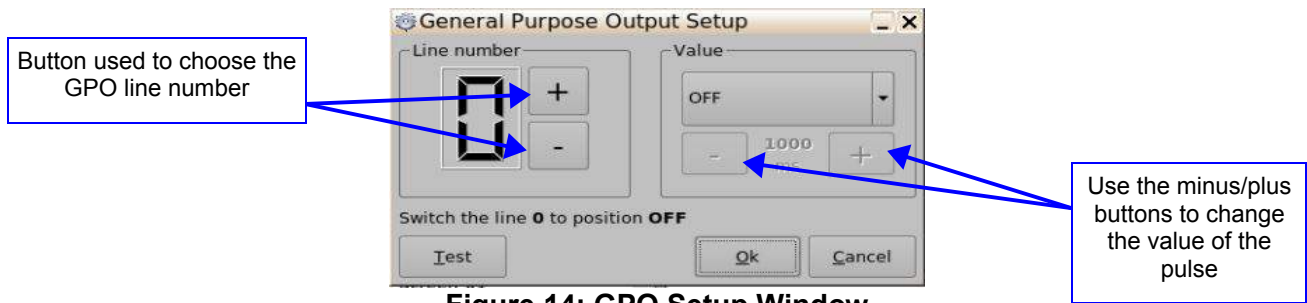

Figure 14: GPO Setup Window
- The user can configure the GPO on the GPO Setup window (Figure 14).